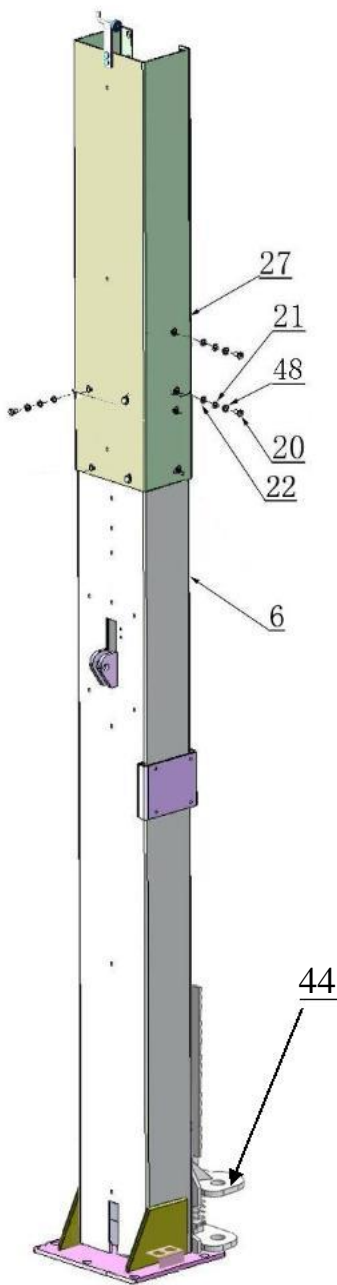

Fig. 13 Low Setting
1. When the ceiling height is less than 3850mm (151 1/2") for TP10AS, connecting the extension columns with the upper hole (**See Fig.13**).